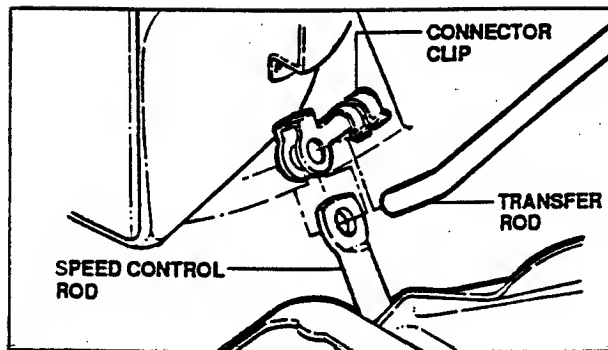

FIGURE 3.15
6. To test the tracking adjustment, disconnect the transfer rod, see Figure 3.15, and start the engine. If the rubber ring tracks in place approximately halfway between the center and left edge of the drive disc, the adjustment is correct.
1. Using a small flat blade screwdriver, free the clip from the transfer rod. Then remove the transfer rod from the clip and the speed control rod. Refer to Figure 3.15.
- (a) Prior to folding handles on self-propelled model, disconnect the transfer rod clip. See Figure 3.15.